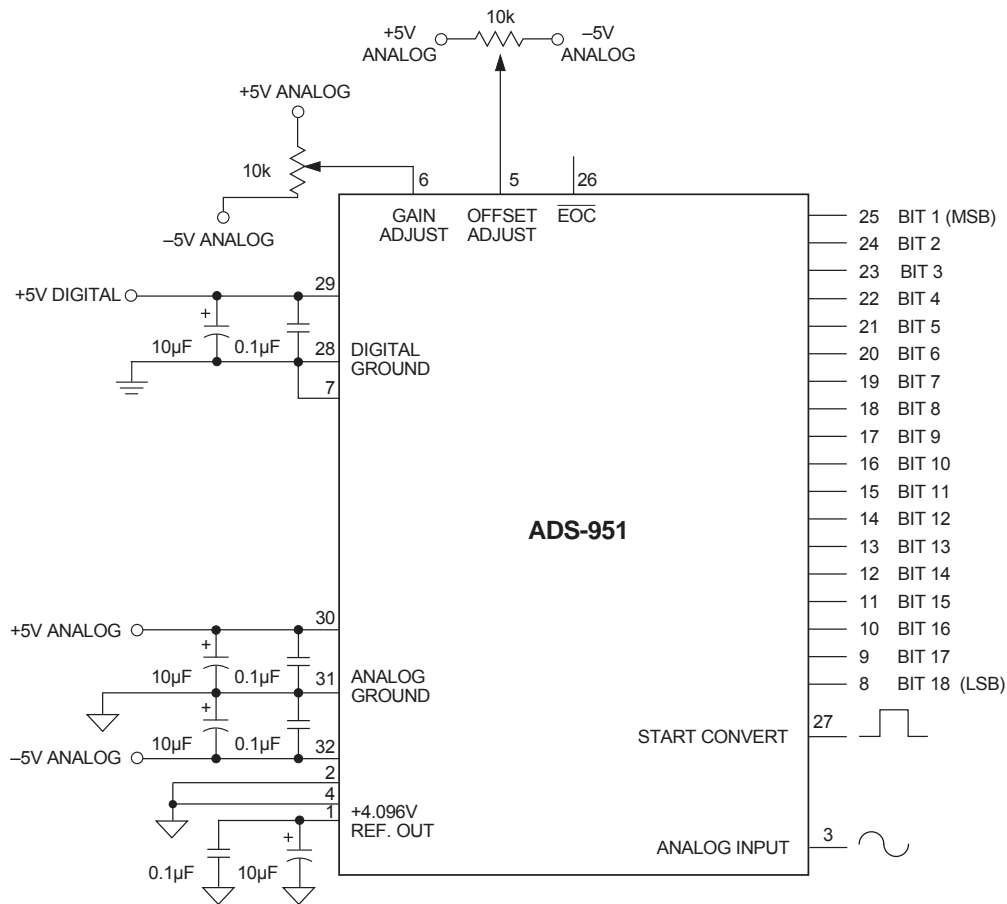

Figure 2. Typical ADS-951 Connection Diagram
2. The ADS-951 achieves its specified accuracies without the need for external calibration. If required, the device's small initial errors can be reduced to zero using the adjustment circuitry shown in Figure 2. When using this circuitry, or any similar offset and gain calibration hardware, make adjustments following warmup. To avoid interaction, always adjust offset before gain. Connect pins 5 and 6 to ground if not using offset and gain adjust circuits.
Any offset/gain calibration procedures should not be implemented until the device is fully warmed up. To avoid interaction, adjust offset before gain. The ranges of adjustment for the circuits in Figure 2 are guaranteed to compensate for the ADS-951's initial accuracy errors and may not be able to compensate for additional system errors.